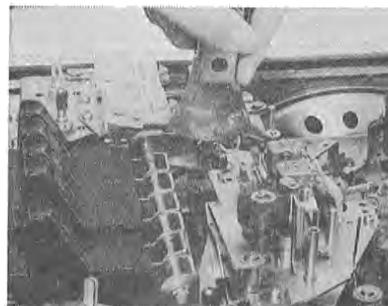

Fig. 16
- b) Pad pressing force $50\text{gr} \pm 10\text{gr}$Fig. 16